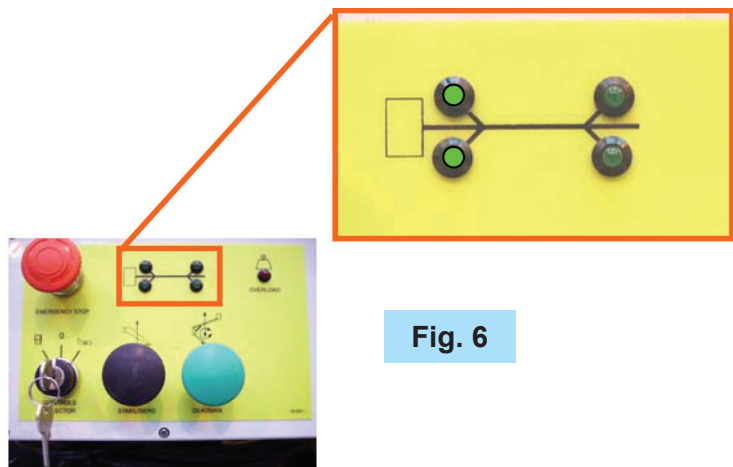

Fig. 6
5. Lower Outriggers 1&2 until the green LED display indicates that they are under load. (Fig 6)